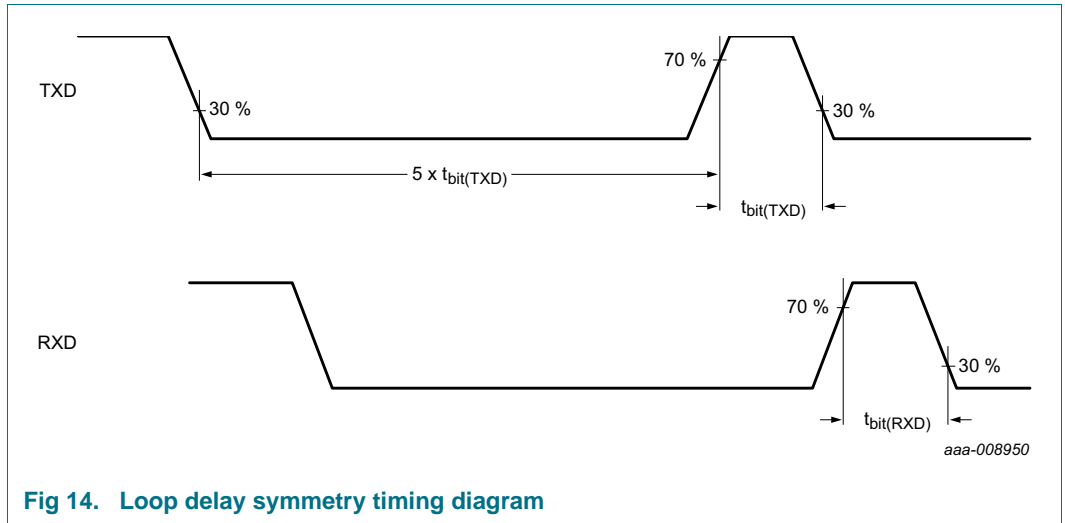

Fig 14. Loop delay symmetry timing diagram
- [2] See Figure 14.
Modifications:	<ul style="list-style-type: none"> • Section 1: text revised (3rd paragraph added) • Section 2.1: feature added (loop delay symmetry) • Table 2: table note amended • Section 6.1.1.4: last paragraph added • Section 6.1.1.6: text revised (3rd paragraph) • Section 6.1.1.7: text revised (4th paragraph) • Table 3: row CAN revised • Section 6.2.2: text revised • Section 6.3.1: text revised • Section 6.3.2: text revised • Section 6.7: text and state diagram revised • Table 14: description for bits CMC revised • Table 15: description for bit CTS revised • Table 16: bit reference corrected • Section 6.11.3: note added at beginning of section • Section 6.16.1: text revised (4th last paragraph); last paragraph added • Table 59: symbols and parameters revised for pins V1 and VEXT; parameters $t_{to(SPI)}$ and $t_{bit(RXD)}$ added; additional measurement for parameter $t_{d(TXD-RXD)}$; parameter $t_{ftr(rst)}$ renamed to $t_{w(rst)}$ and value changed; parameter values changed: t_{wake} for pin WAKE • Figure 14: added • Section 11.2: added • Section 12.1: text updated